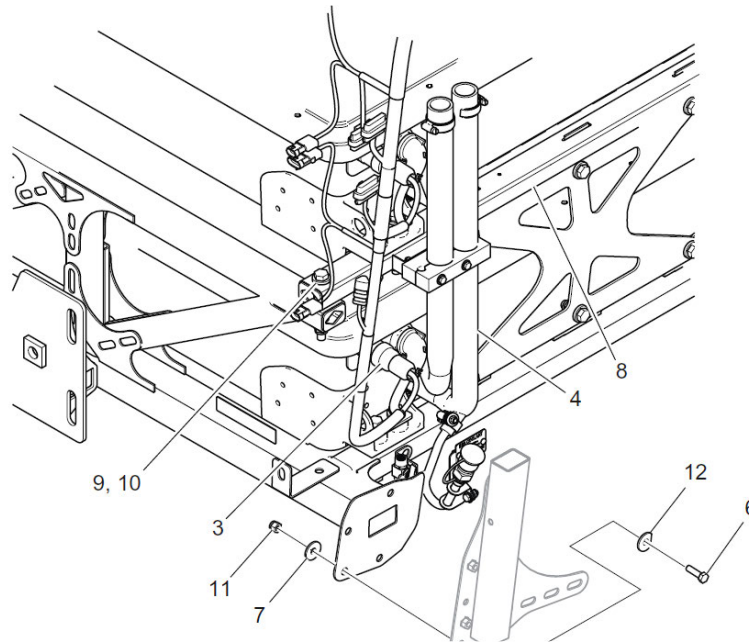

Figure 11: Rear ESS Compartment Rack Installation
26. Connect the corner pillar brackets and pillars with washers on each side of bracket and torque 3/8" bolt to 8 ft-lbs. (38 Nm). Reference Figure 11 for details.